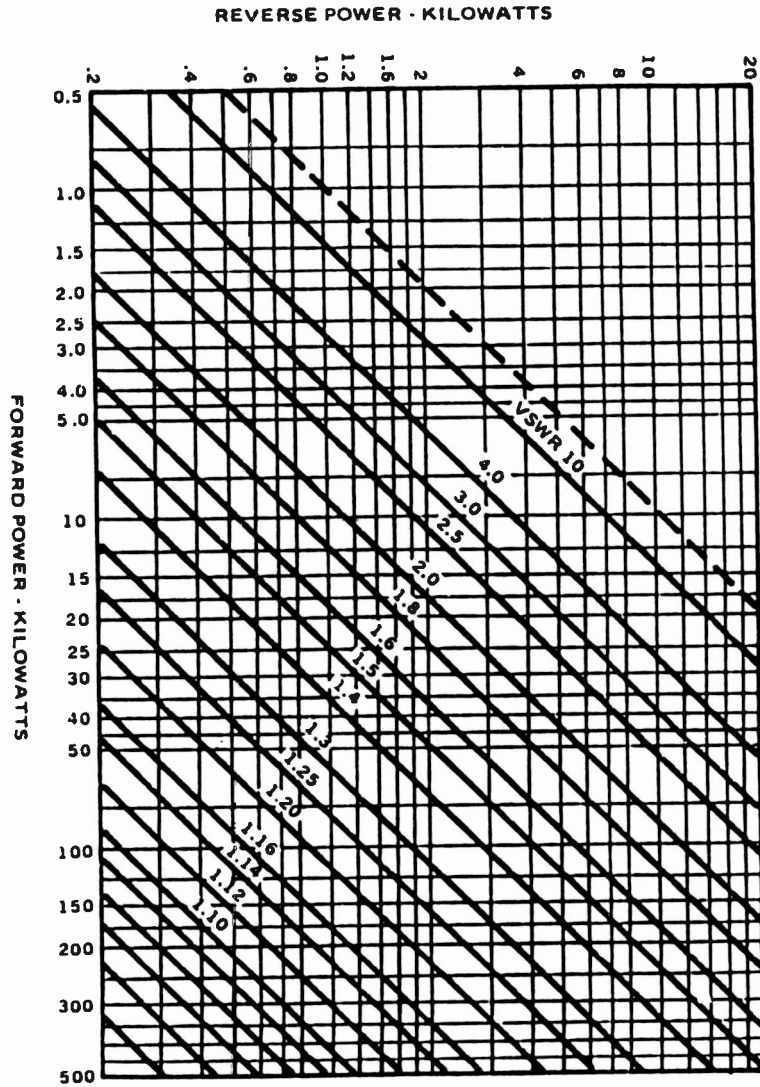

Figure 3-9. Power to VSWR Conversion Graphs
27. ANTENNA SYSTEM VSWR CHECK. The RF WATTMETER and the graph in Figure 3-9 can be used for this purpose if other means are not available. Typically, VSWR is less than 1.1:1 and it must not exceed 2:1.